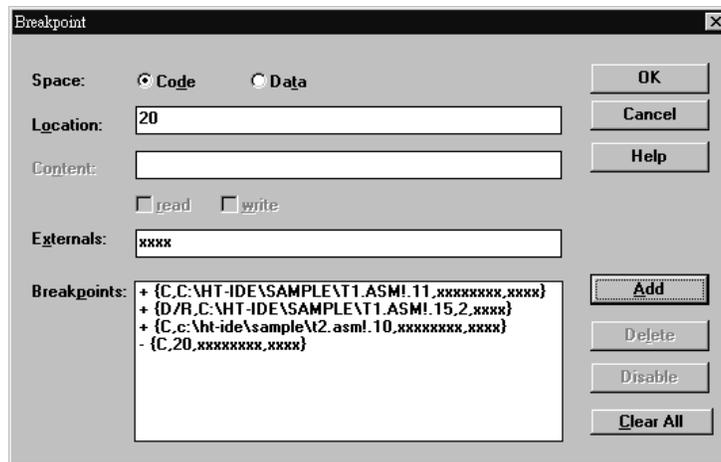

Fig 5-3
A breakpoint consists of the following descriptive items. It is not necessary to set all items, Fig 5-3:
- If the breakpoint to be set is not in the breakpoint list box (Fig 5-3), then the descriptive items must be designated first, then added to the breakpoint list box.
A breakpoint dialog box is displayed (Fig 5-3)